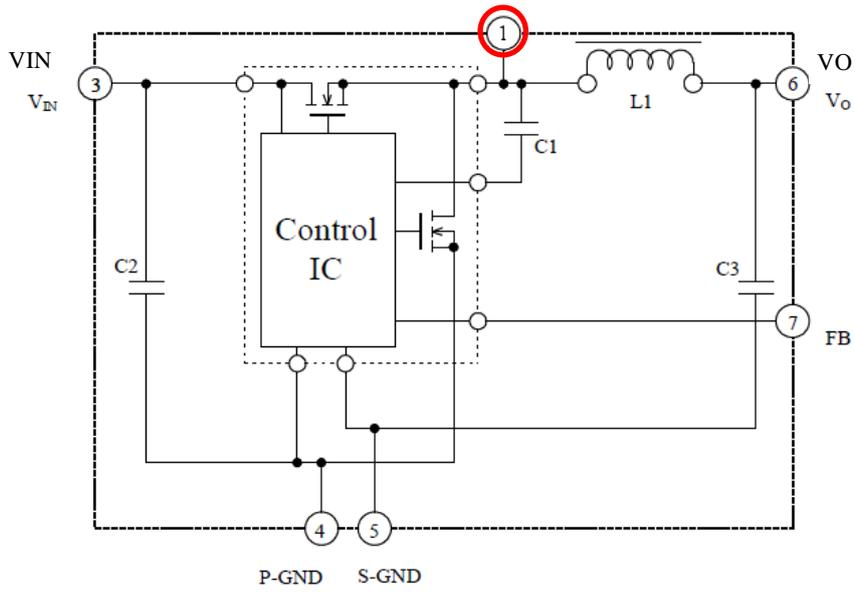

Figure 5-1. Internal Connection of 1 pin
(1)1 pin is not the function pin but the test pin to measure the oscillation frequency. Therefore 1mm of pin remains though it is cut off at the root of pin after test. Since the remained pin is live part, please pay attention to avoid the connection of the remained pin and the other live part pattern.( Figure 5-1)